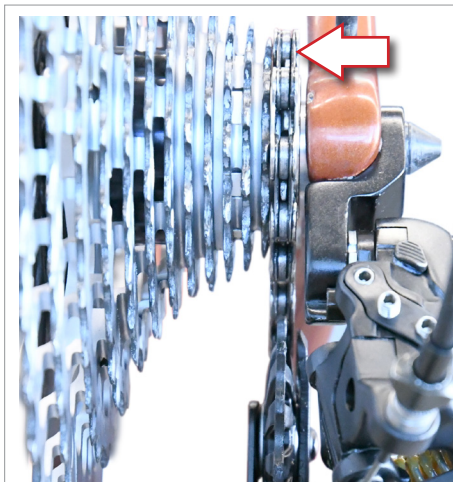
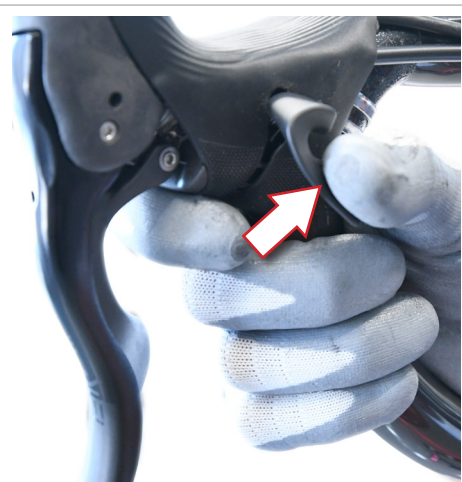

Fig.7
Fig.8
- Carry out this operation with the chain positioned on the smallest sprocket (Fig. 7) of the freewheel and with the Ergopower™ control button set to zero (Fig. 8).